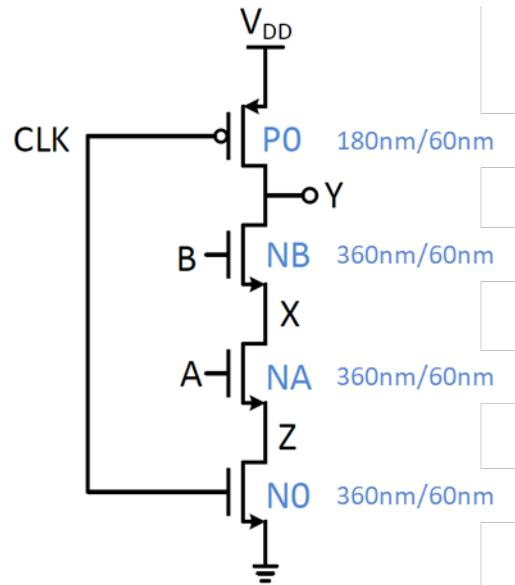
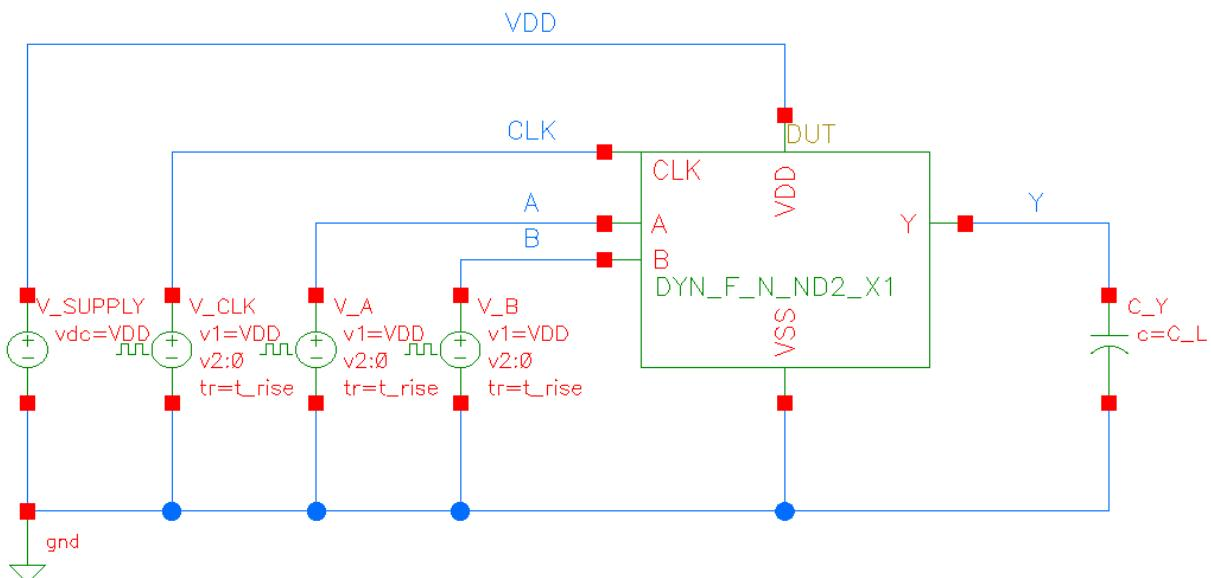

Figure 1: Dynamic NAND Gate
Figure 2: Dynamic NAND Gate Simulation Schematic
This name consists of 5 different properties of a gate. The first abbreviation which is **DYN** stands for the fact that the gate is a dynamic gate. **N** indicates that the logic tree is composed of nMOS devices (i.e. the transistors which perform the logic function are nMOS). **F** shows that the gate is footed (i.e. in the case of an N network, a clocked nMOS transistor exists at the bottom of the gate, under the nMOS logic tree; later, it will be shown that the clocked nMOS can be removed by applying some constraints. If there are some points which are not clear, you can refer to Figure 1: NA and NB are logic tree transistors; NO: (foot) clocked nMOS under nMOS logic tree). **ND2** specifies that the gate performs NAND logic function with 2 inputs. Finally, **X1** displays the driving strength of the gate. For the different options of the 5 different properties please observe the tables below:
Create a new schematic view and call it **DYN\_N\_F\_ND2\_X1**. Draw the dynamic NAND gate shown on Figure 1. Always use **N\_12\_LLRT** and **P\_12\_LLRT** transistors under the library **umc65ll**. Do **NOT** forget to connect all bulk nodes of the nMOS devices to VSS and all bulk nodes of the pMOS devices to VDD pins. Set all the transistor dimensions to the values which are indicated on the figure. Do **NOT** forget to enter the label name **X** according to Figure 1. Connect the input pins A and B exactly same as in Figure 1 although the reverse connection results in the same functionality. Create the symbol view. During the creation of the symbol view, change the property of the NLPLabel from **[@partName]** to **[@cellName]**. You should do this each time you create the symbol view of a cell. By doing this, you will be able to see the correct cell name on a symbol view in case you copy a cell. On the symbol view, also place the CLK pin to the upmost point as shown on Figure 2. This way it is separated from the other input data signals.
Under the library **VLSI2\_TB** create a new schematic view and call it **DYN\_N\_F\_ND2\_X1\_TB**. Draw the schematic of Figure 2 by providing the necessary net names. Edit the properties of the voltage sources according to Table 5.
- Observe the transitions by looking at the dynamic NAND gate schematic on Figure 1 and considering the MOS parasitic capacitances seen at the nets **Y** and **X**, and considering the states of the transistors (either they are ON/OFF) (Do not forget the fact that the net Y at the output is a precharged floating node).
**Case Study 1:** Two different simulations were run on the circuit of Figure 2. The below data is observed: